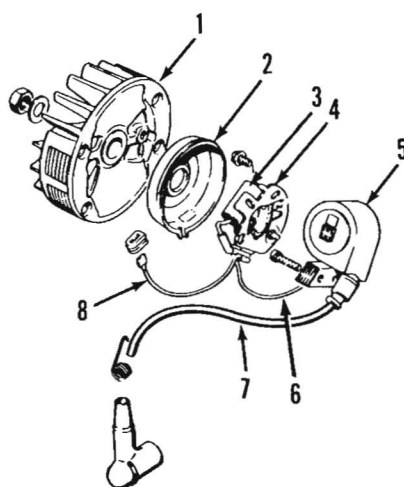
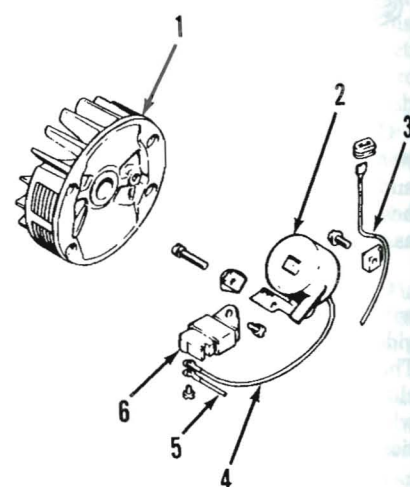

Fig. ST2—Exploded view of magneto ignition system used on Models 015, 015AV and 015L.
Fig. ST3—Exploded view of transistor ignition system used on Models 015AVE and 015LE.
IGNITION. Models 015, 015AV and 015L are equipped with a conventional breaker point controlled flywheel magneto ignition system (Fig. ST2). Models 015VE and 015LE are equipped with a breakerless transistor ignition system (Fig. ST3).
nal of high tension wire and other test lead to ground. Resistance should be 6500-9000 ohms for all models. Renew coil assembly if readings vary greatly from specifications. To check electronic trigger switch (6—Fig. ST3), install a known good switch and check for spark.
Transistor Ignition. Models 015VE and 015LE are equipped with a Bosch breakerless transistor ignition (Fig. ST3). The transistor circuit is designed to take the place of breaker points in a conventional ignition system. The system is triggered magnetically by a magnet in the flywheel (1). The ignition coil (2) is mounted outside the flywheel and the electronic trigger plate (6) is mounted behind the flywheel.